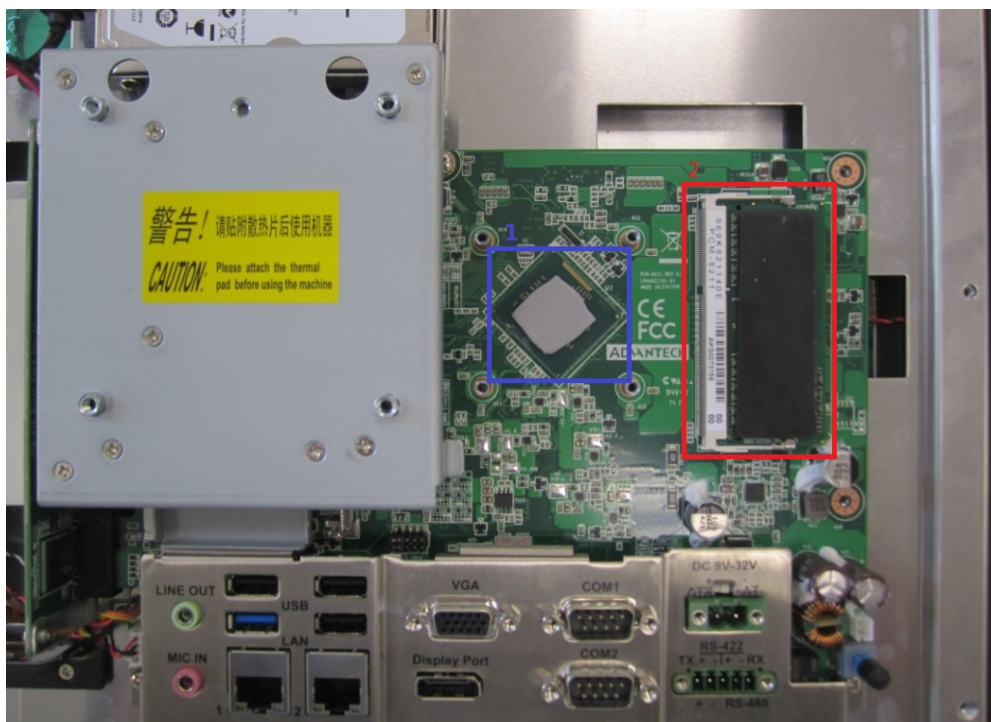

Figure 2.8
3. Insert the memory card into the slot (highlighted in the red square in Fig. 2.8). Retrieve the thermal pad provided in the accessory box and install it directly atop the memory card and CPU. Then replace the heatsink.